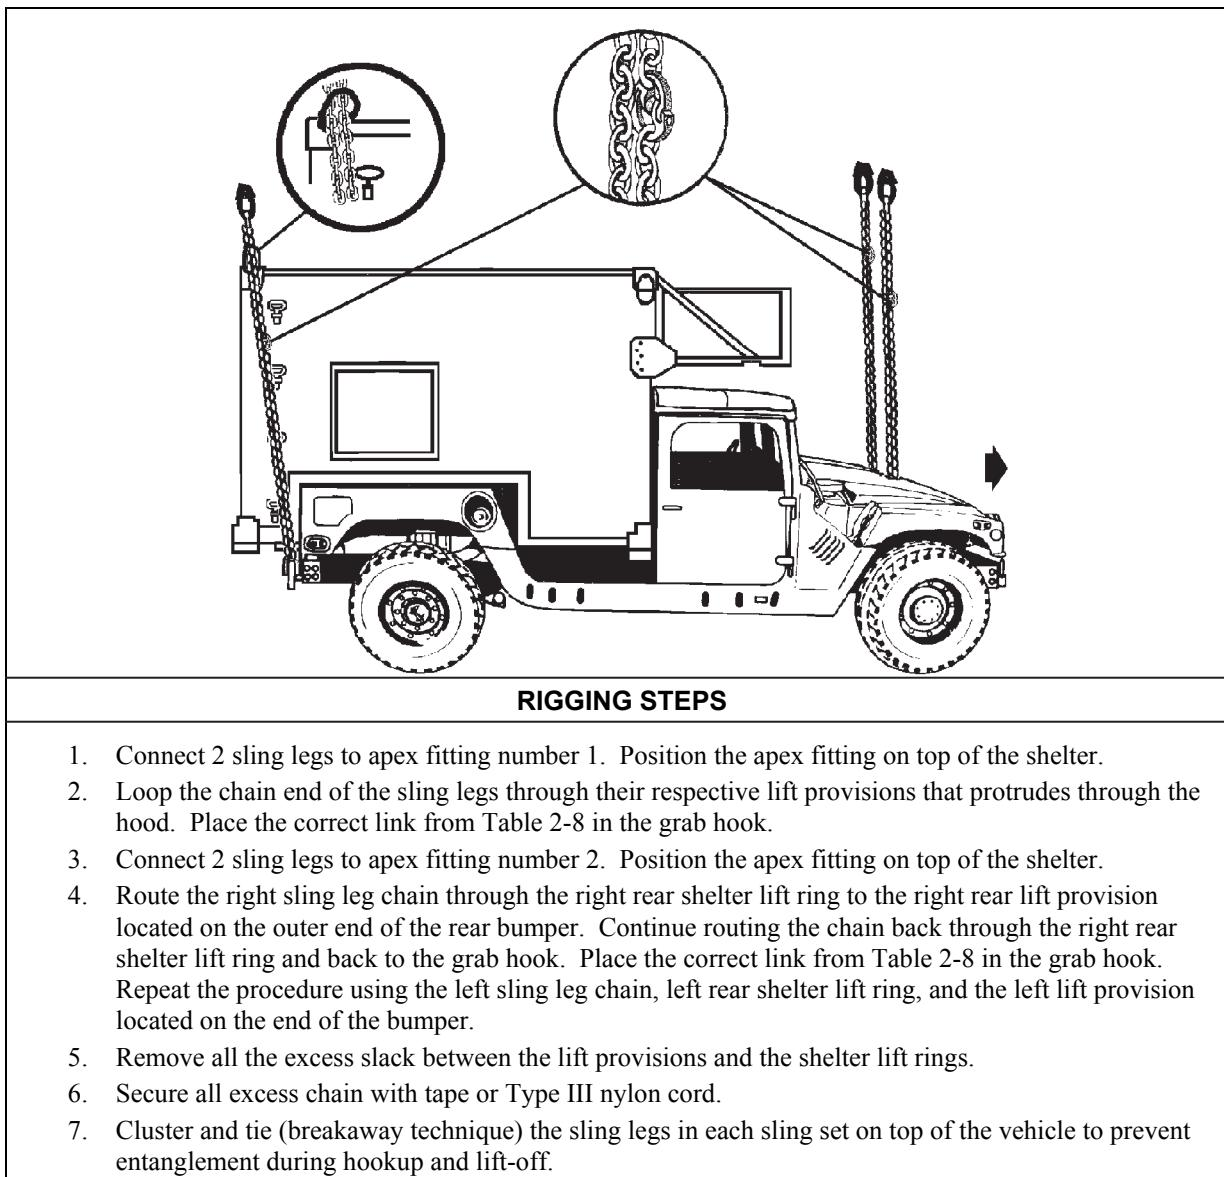

Figure 2-7. LMS Shelter Mounted on M1097 /M1097A2 Using Shelter Lift Rings as Sling Guides
- **Rigging.** Rig the load according to the steps in Figure 2-7.